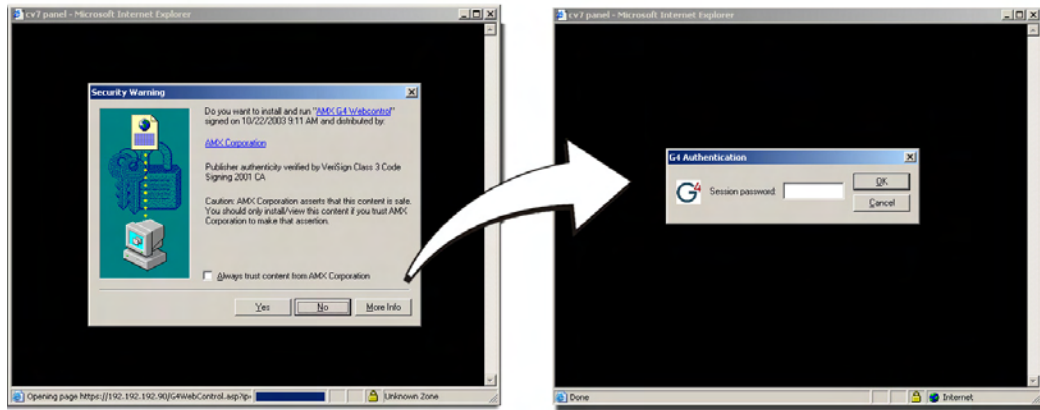

FIG. 43 Web Control VNC installation and Password entry screens
5. Click on the G4 panel name link associated with the target panel. A secondary web browser window appears on the screen (FIG. 43).